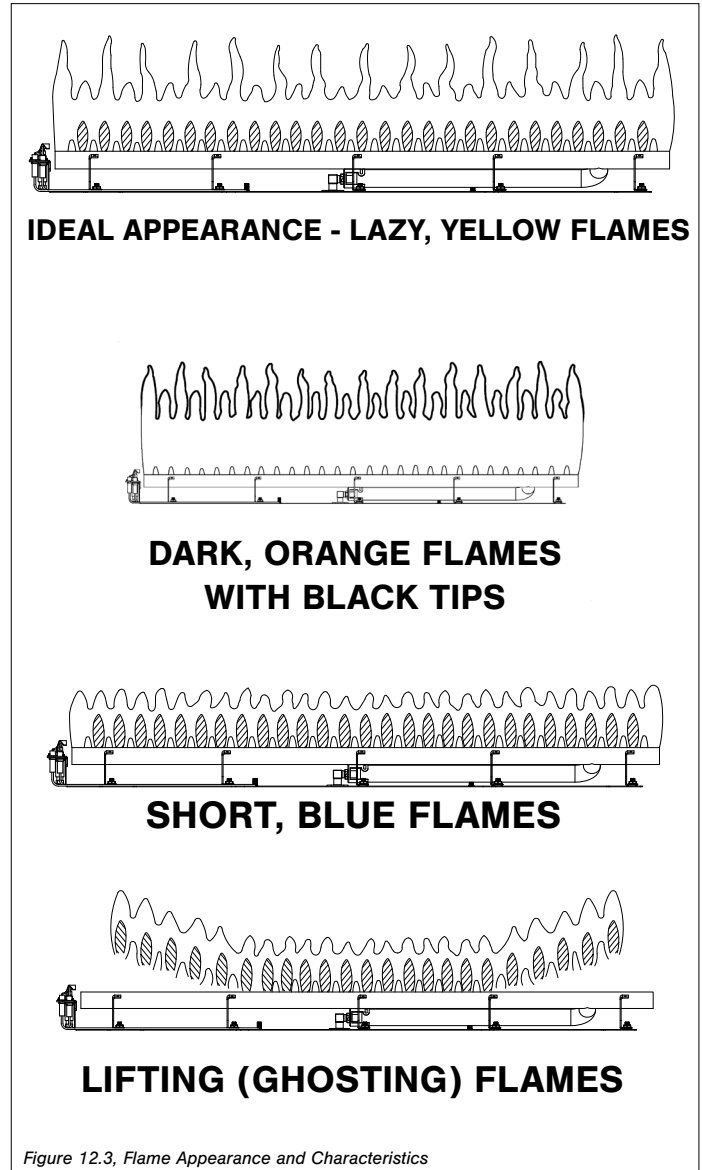

Figure 12.3, Flame Appearance and Characteristics
- Visually check pilot light and burner flame pattern when in operation. Flames should be steady, not lifting or floating. Refer to Figure 12.3, Flame Appearance and Characteristics on page 32 for more information.